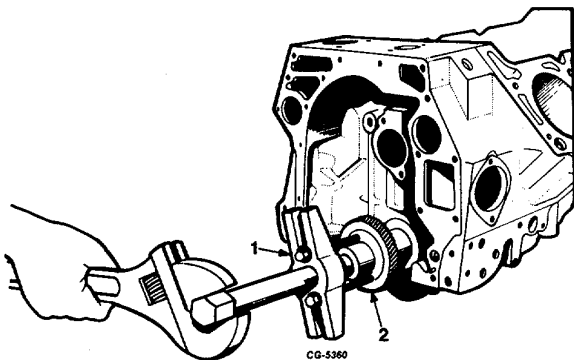

Fig. 67 Using SE-1368 Puller to Remove Crankshaft Gear
69. Use SE-1368 Puller to remove the crankshaft gear, Figure 67. If necessary, use an adapter or heavy flat washer between the crankshaft and puller screw to prevent damage to the internal threads.